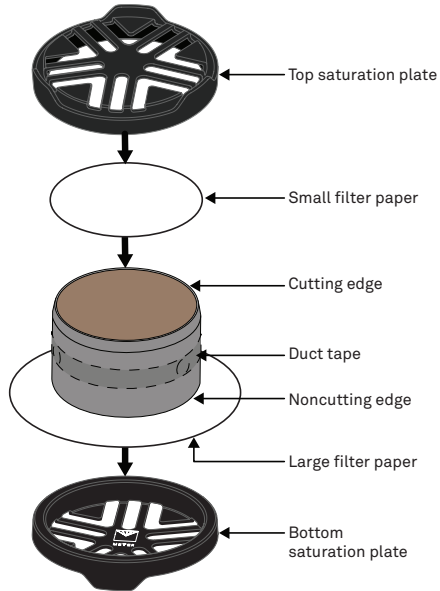

Figure 14 Large filter paper
- Place the noncutting side of the sample ring with filter paper onto a LABROS saturation plate (Figure 14).